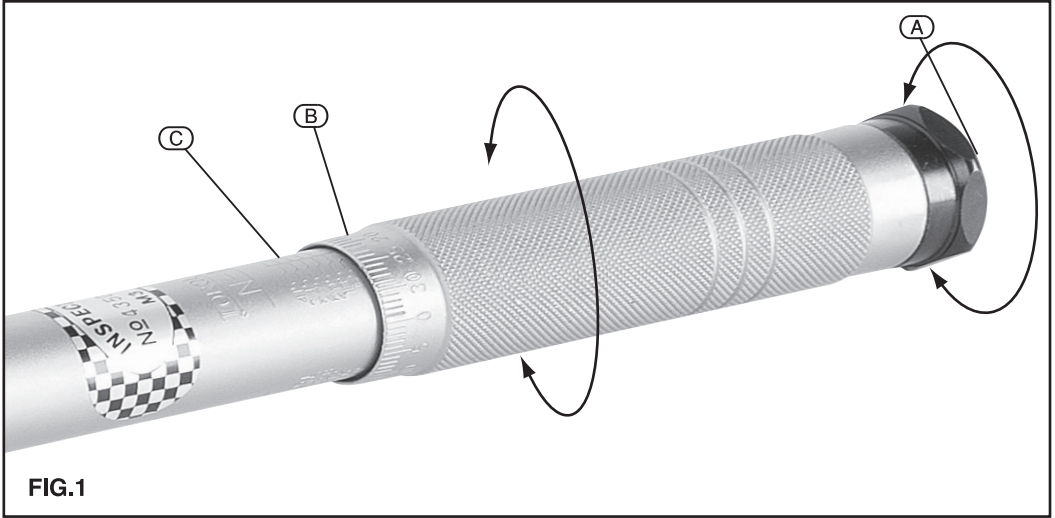

FIG.1
## 8.1 OPERATION INSTRUCTIONS - FIG. 1
1. Unlock handle (Fig.1) (Page 9).
4. Lock handle (Fig.1) (Page 9).